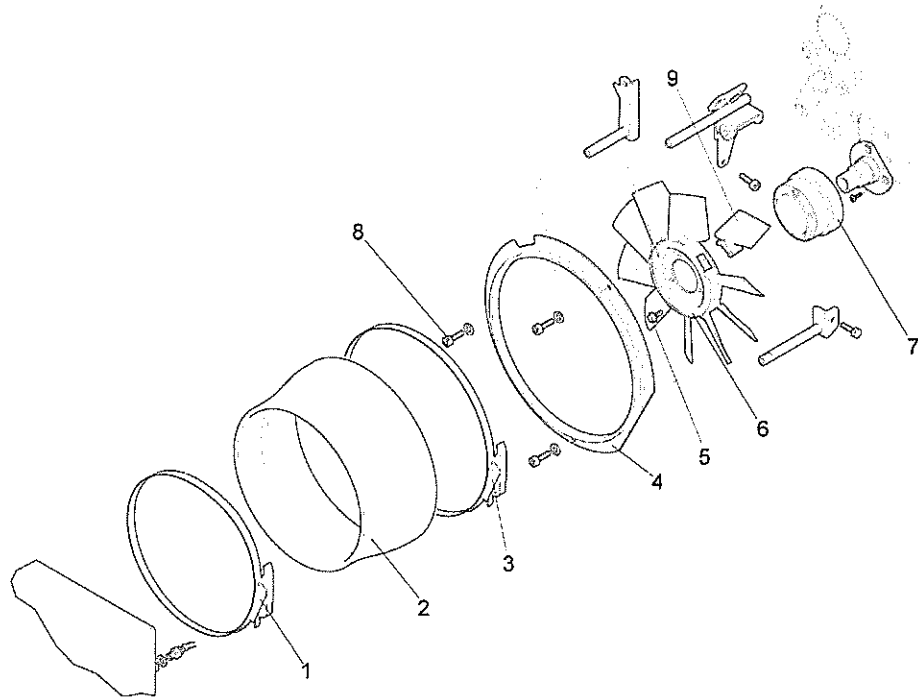

Fig 9 Electromagnetic fan clutch system
- 19.3 Undo two duct retaining clamps (Fig 9 (1 and 3)) that secure the flexible fan duct (2) to the vehicle air tunnel and the cooling fan cowl (4) located on the engine. Remove the clamps from vehicle and retain after first noting their positions for re-assembly.
19.5 After first noting orientation of fan, undo three M6 bolts (5) that secure the fan assembly (Fig 9/6) to the electromagnetic clutch (7) and remove from vehicle.
20.2 Install fan assembly (Fig 9 (6)) on to the electromagnetic clutch (7) ensuring fan is orientated correctly.
21 In the event of damage to a fan blade(s) (Fig 9 (9)) remove fan assembly, see Para 19, and after first noting orientation, carefully split fan hub and replace fan blades as necessary.
23.2 After first noting orientation, undo the fan M8 retaining bolts (Fig 9 (8)) from the duct mounting ring (4) and remove ring from mounting brackets.